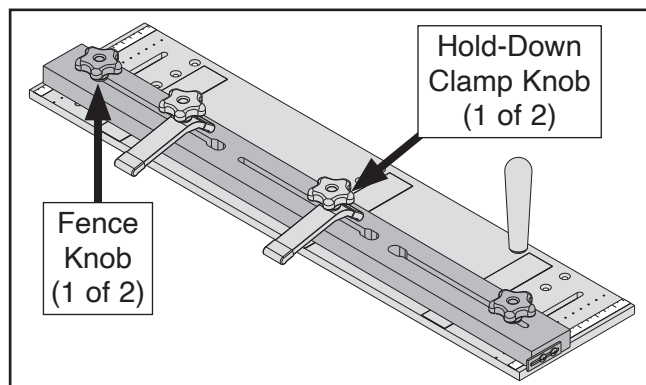

Figure 22. Location of miter bar attaching screws and jig knobs.
4. Loosen (2) fence and (2) hold-down clamp knobs (see **Figure 22**).